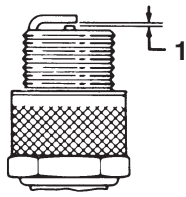

Figure 26
- Set the gap on the plug to 0.030 in. (0.76 mm) (Fig. 26).